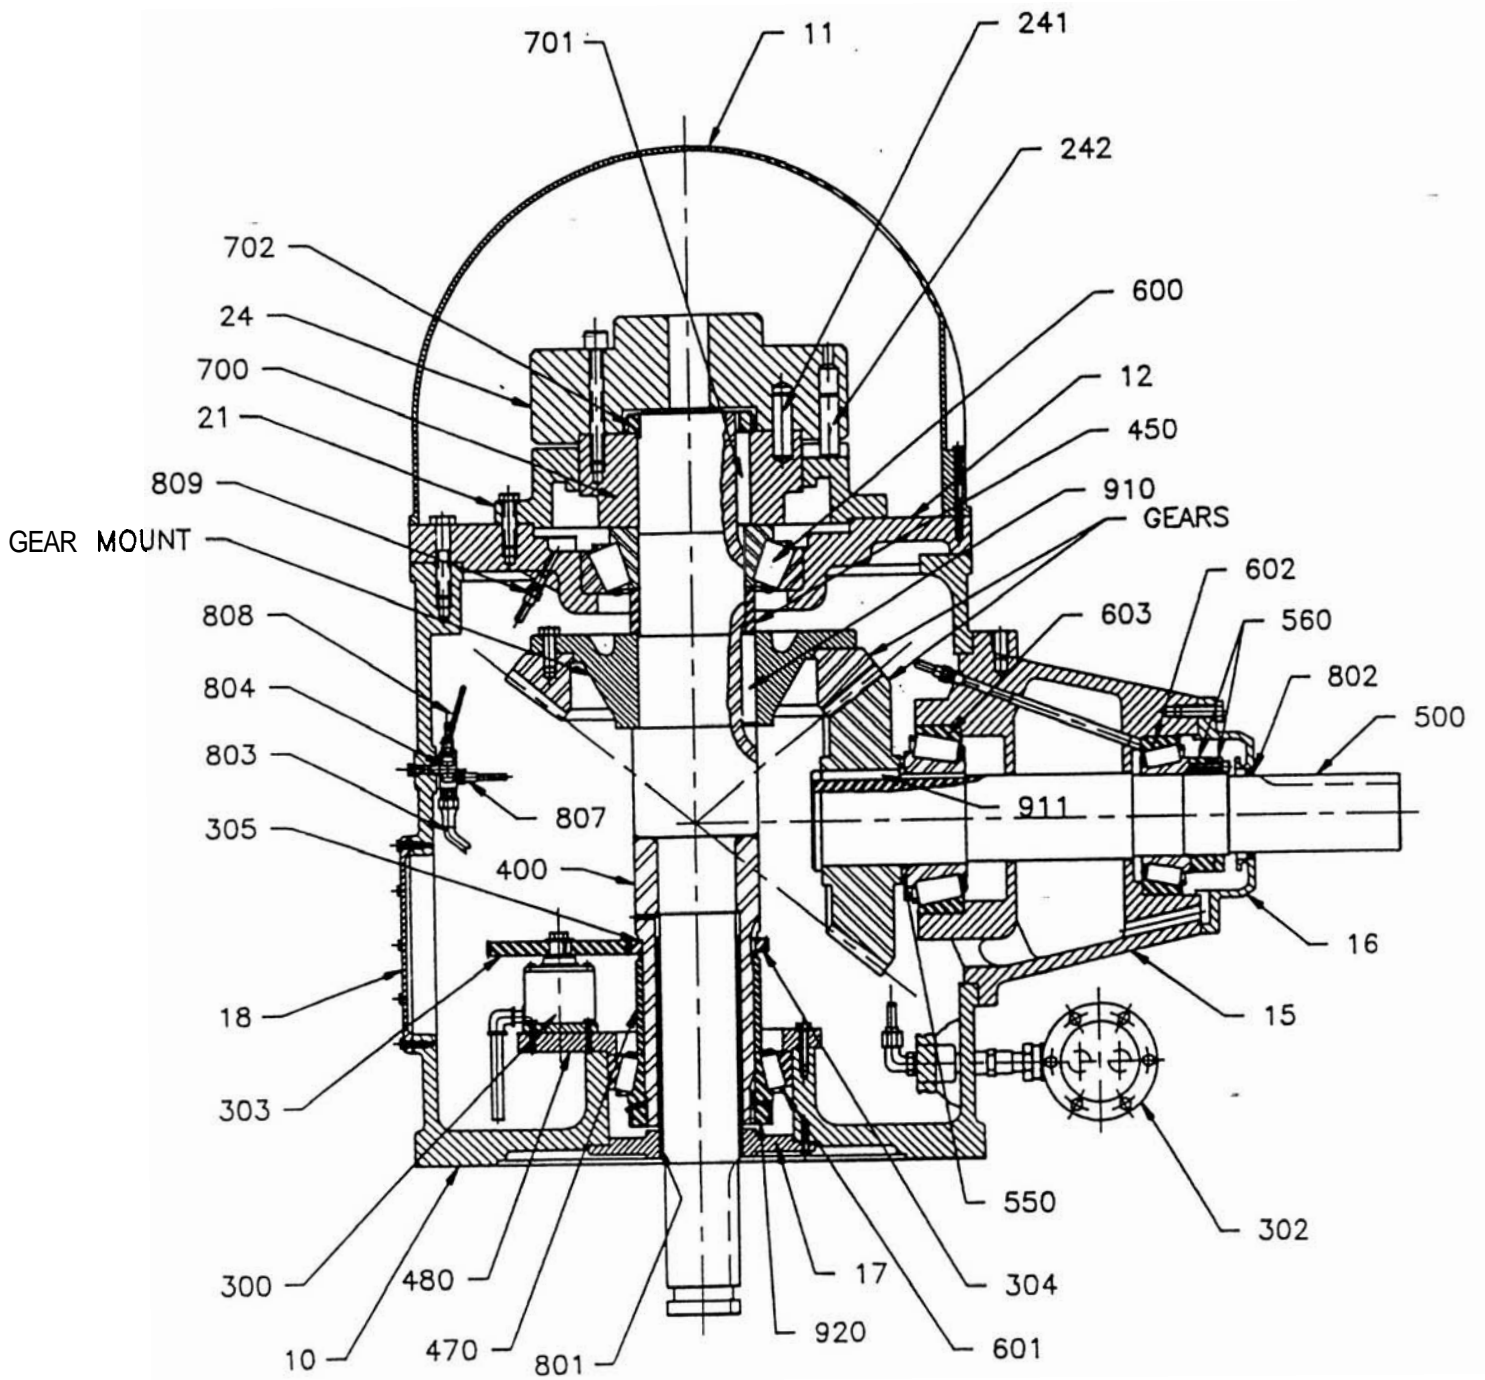

Figure 1
- 1.1 Refer to the appropriate cross sectional drawing during disassembly. See Figures 1, 2 and 3.
- 1.7.3 On models having a single piece horizontal carrier (see Figure 1 or 3), guide the horizontal carrier (14) assembly out of the gear case (10) using a hoist. Proceed to step 1.8.
- 1.10 On models with non-reverse (see Figure 1 or 3), remove the top cover (11) and non-reverse clutch (24).
- 2.10 If the gear is being replaced, remove the bolts holding the gear to the gear mount. If the gear mount is still pressed on the shaft (400), slide the gear off the end of the shaft.
- 3.0 Disassembly of the Horizontal Shaft Assembly for Models with Single Piece Horizontal Carrier (See Figure 1 or 3).**